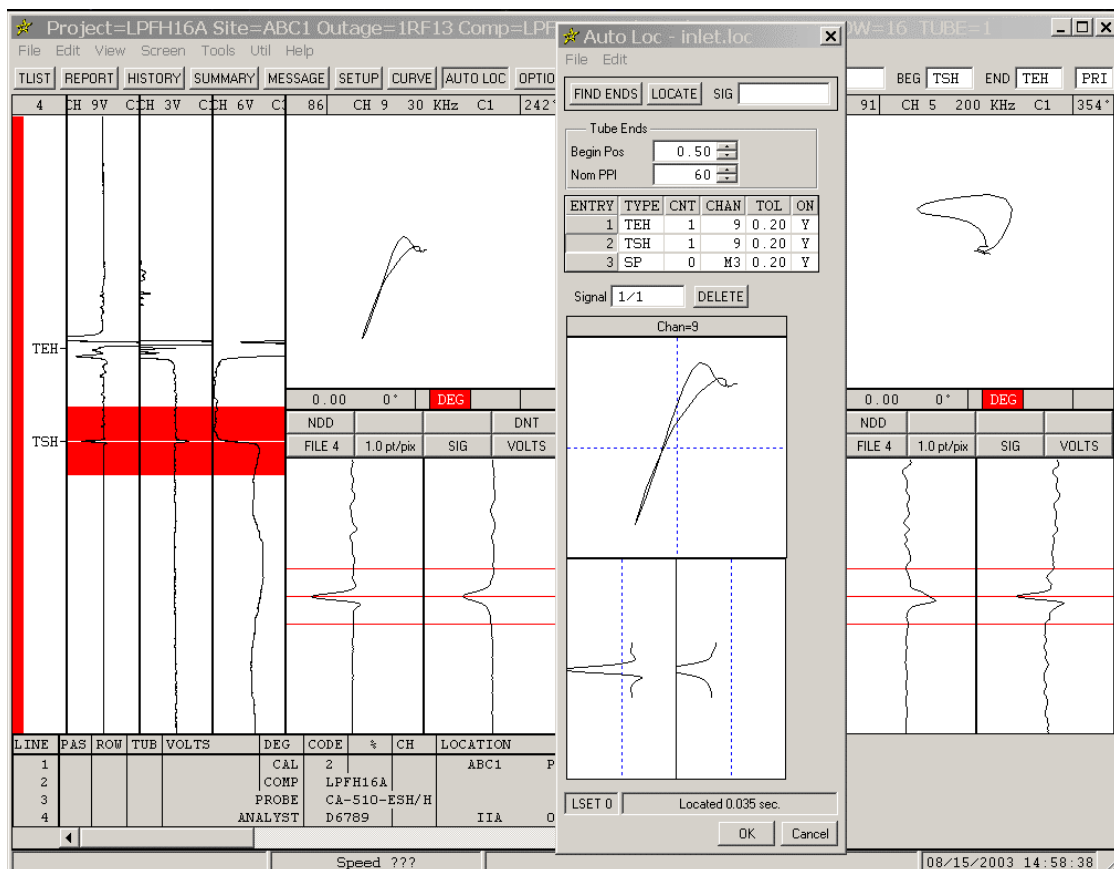

Figure 1-28. Auto-locate - Training the Tubesheet Interface
STEP 15: Click the **LOCATE** button. As shown in Figure 1-28, both **TEH** and **TSH** should appear in the **Landmark** strip at the correct locations in the data file.